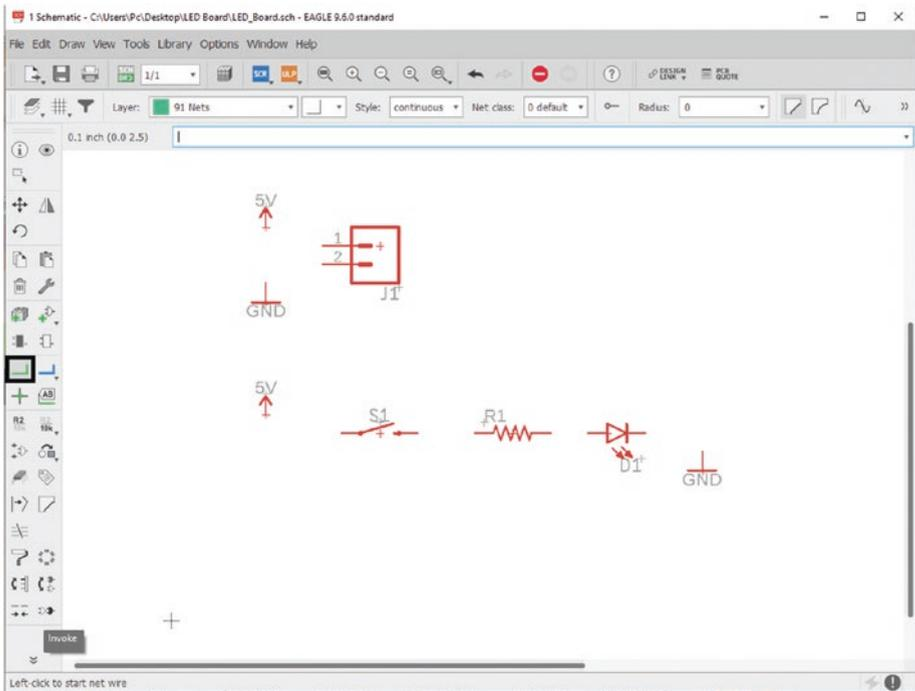

Figure 5-42. Click the “Net” button
- 29. Click the “Net” button; we are now in the phase where we will be connecting the various components together. Pay special attention to each of these connections as an incorrect connection here means an incorrect connection on the board layout, which can cause serious problems with your board. See Figure 5-42.